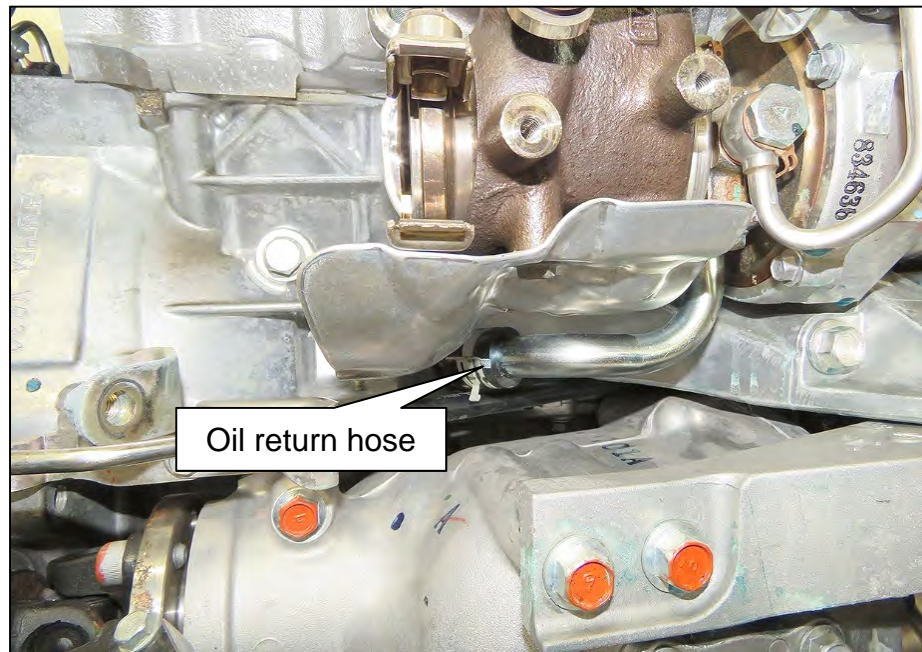

Figure 52
78. Release the spring clamp and disconnect the associated oil return hose shown in Figure 52.